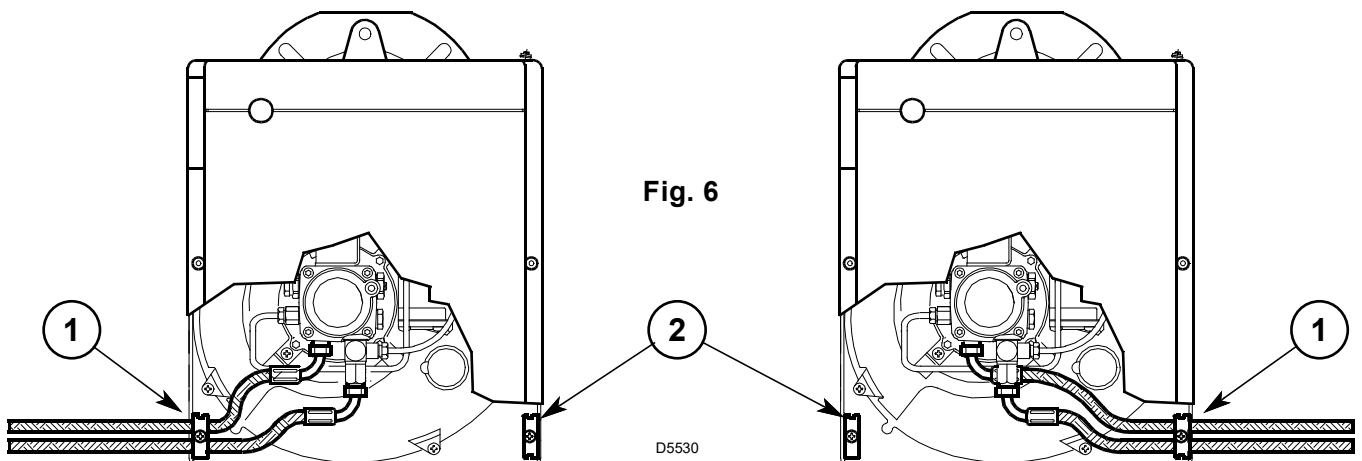

Fig. 6
The burner is designed to allow entry of the oil supply pipes on either side. Depending on the oil supply pipes position (to the right or to the left hand side of the burner) the fixing plate (1) and closing plate (2) should be reversed, (see Fig. 6).